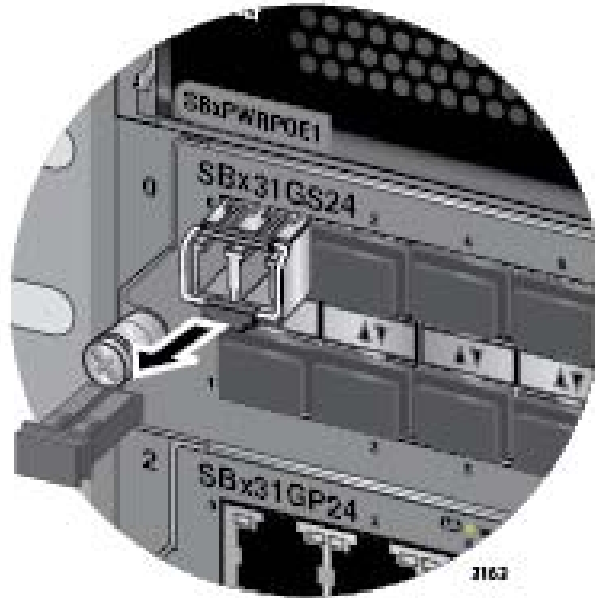

Figure 101. Removing the Dust Cover from a Transceiver
- Remove the protective cover from the SFP transceiver, as shown in Figure 101 on page 166.